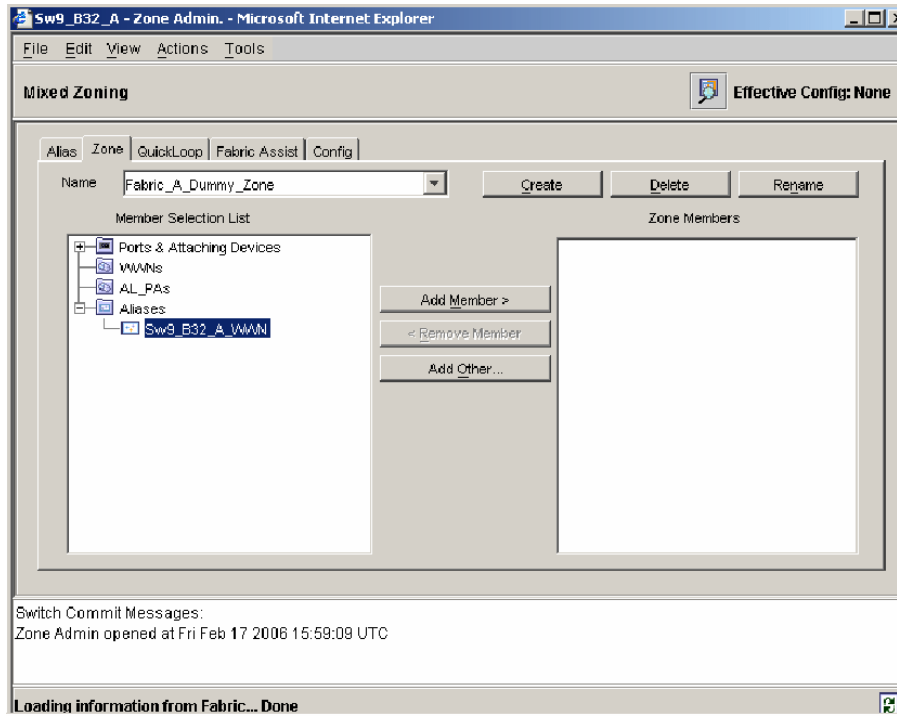

Figure 5-38 Creating a new zone
- Go to the Zone tab (Figure 5-38) and click **Create**. Name the zone Fabric_A Dummy Zone for Fabric A or Fabric_B_Dummy_Zone for fabric B.